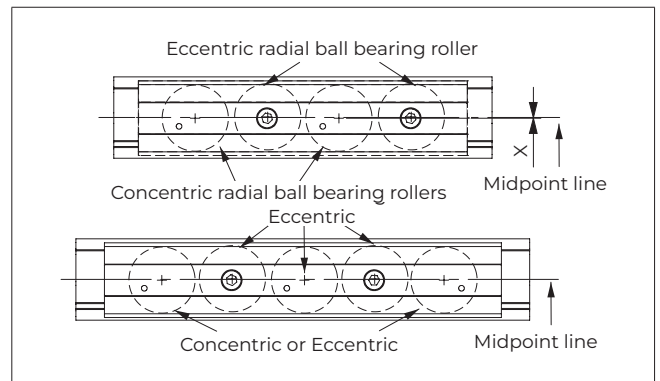

Fig.60
- ▣ Maintain the recommended offset distance between the midpoint line of the concentric rollers and that of the eccentric rollers (Fig.60).
- ▣ Two concentric rollers are recommended for the slider with five or more rollers (Fig.60). The two concentric rollers must engage with the lower raceway of the rail. The other rollers must all be eccentric and engage with the upper or lower raceway, depending on the application. Maintain the recommended offset distance between the midpoint line of the concentric rollers and that of the eccentric rollers.